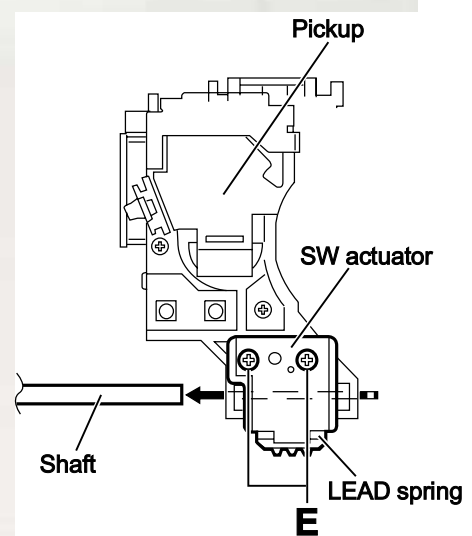

Fig.9
- (8) Pull the shaft out of the pickup. (See Fig.9.)
- (1) Attach the shaft, SW actuator and LEAD spring to the pickup. (See Fig.9.)